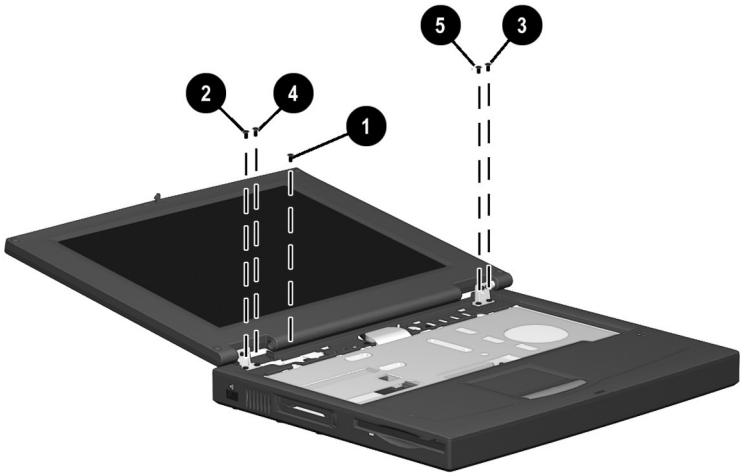

Figure 5-11: Installing the Display Screws
To ensure proper alignment of the display when replacing it, loosely install the screws in the ①, ②, ③, ④, ⑤ sequence indicated in Figure 5-11. After all screws have been loosely installed, tighten them.